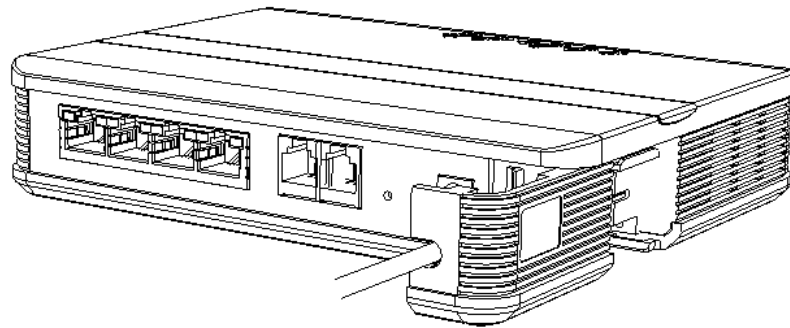

Figure 4 Attach the Laser Lock Door
4. Attach the Laser Lock Door to the ONT (Figure 4).